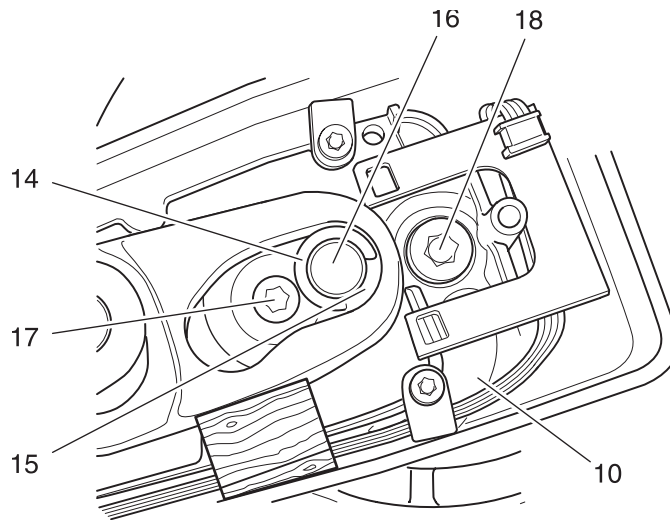

Fig. 5
- Place the roller onto the heating shoe and insert wire branch 10 through the drill hole in the bearing arm (fig. 5).
- Support bearing lever as shown in fig. 5.